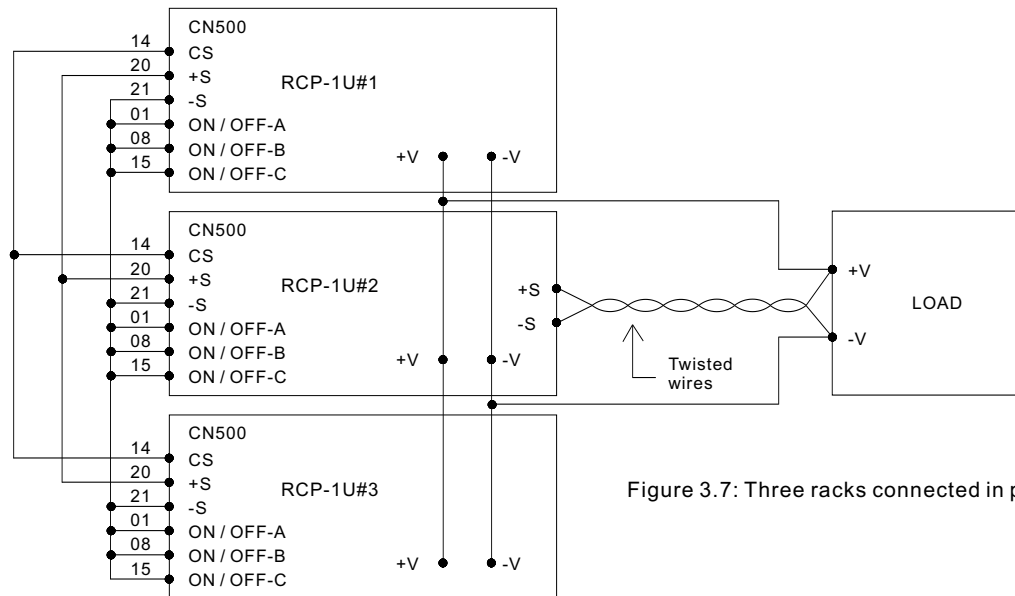

Figure 3.7: Three racks connected in parallel
- ⊙ Please paralleling the racks first and then connect to the load (refer to Figure 3.7). Do not connect each rack to the load separately!
- ⊙ The control signals CS, +S, -S should also be connected in parallel. (refer to Figure 3.7)
- ⊙ Twisted wires should be used for the wiring of +S and -S. To avoid the interference, the twisted wires should not touch the load wires. (refer to Figure 3.7)